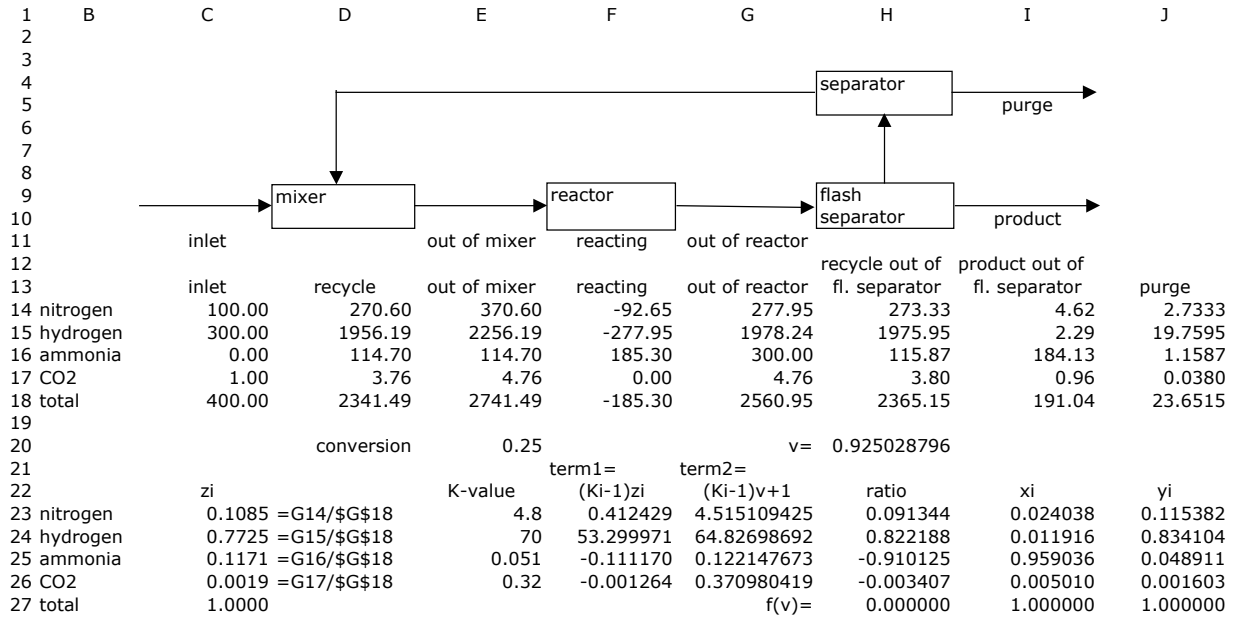

Figure 5-11. Mass balance for ammonia process with vapor-liquid equilibria
Let's use nitrogen to explain the spreadsheet, Fig. 5-11. **Step One.** The recycle stream (cell D14) is obtained by subtracting the purge from the product out of the separator. Set cell D14 to: =H14–J14. **Step Two.** The stream out of the mixer (cell E14) is the sum of the inlet stream and recycle. Set cell E14 to: =C14+D14. **Step Three.** The amount reacting is the conversion times E14. Set cell F14 to: =E14*E20. **Step Four.** The stream out of the reactor is what came in minus what reacted. Set cell G14 to: =E14+F14. **Step Five.** The stream as recycle out of the separator uses Eq. (5.9). Set cell H14 to: = \$H\$20*\$G\$18*J23. **Step Six.** The product stream is the difference. Set cell I14 to: =G14–H14. **Step Seven.** The purge stream is one per cent of the stream. Set cell J14 to: =0.01*H14. These formulas are copied down, except for column F in which the amount of hydrogen reacting and ammonia formed are determined as multiples of the amount of nitrogen reacting. The total row (18) is the sum of the flow rates of the components.